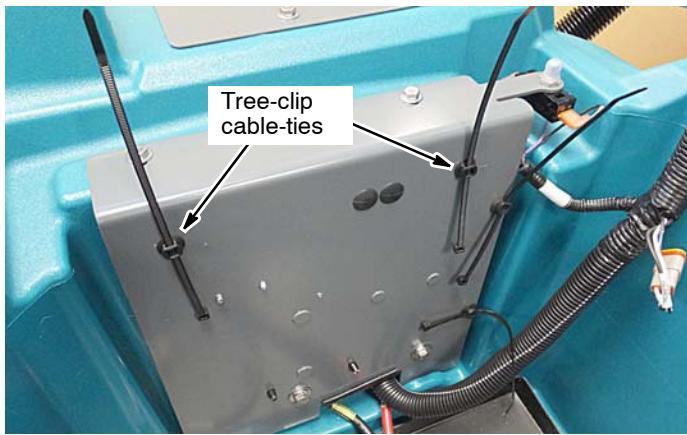

Fig. 7
3. Install two tree-clip cable-ties [1210807] to the electrical panel as shown (Figure 7).